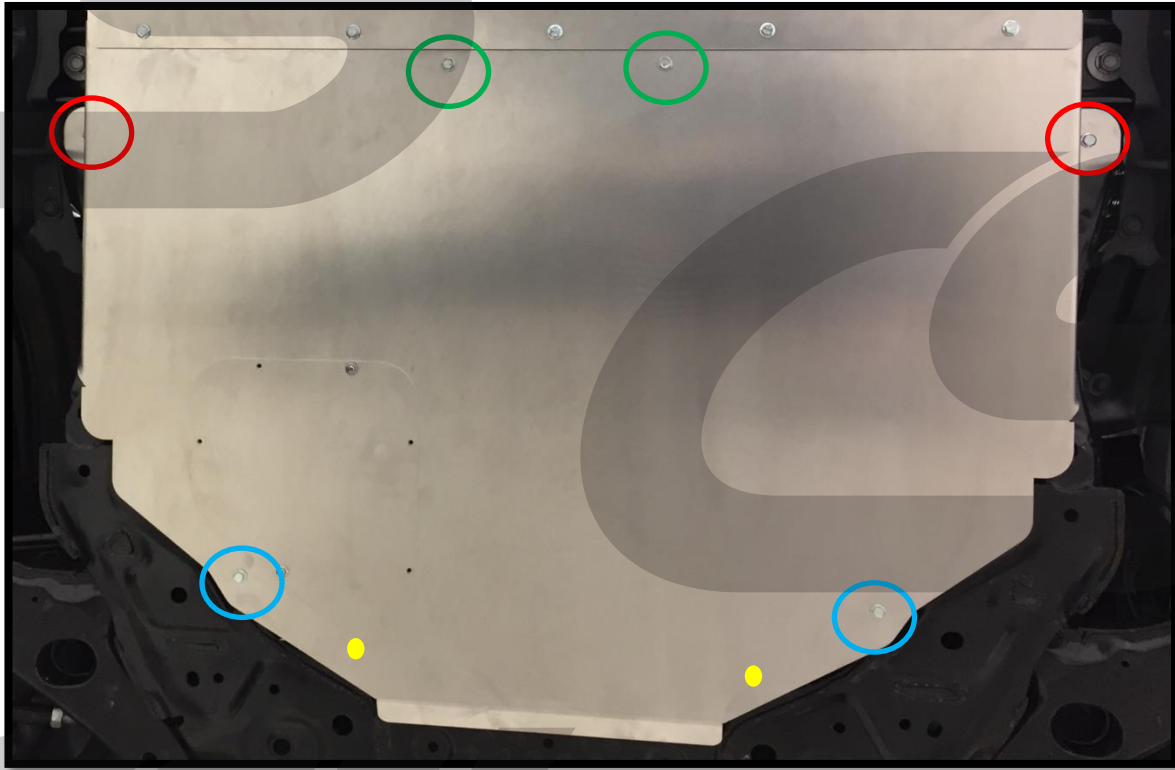
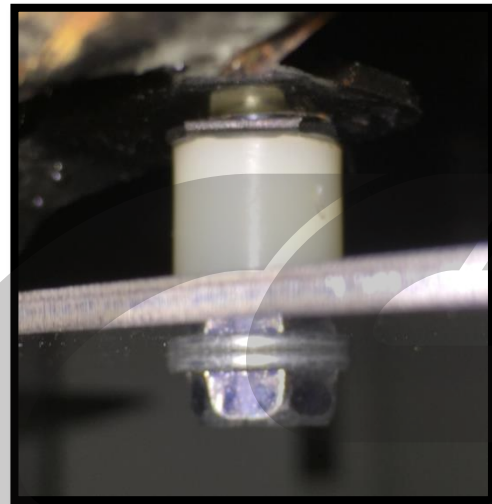

Figure 2c
Figure 2d
- c) Lift the Rear Section of the CorkSport Skid Plate into place and secure with two (2) OE 10mm bolts in the locations circled in red in Figure 2c.
- d) Place two (2) ½" nylon spacers above the holes in the skid tray circled in blue in Figure 2c. Figure 2d shows how the spacers should look when installed.
- e) Align the ½" nylon spacers with the previously installed U-nuts and two (2) supplied M6x30 button head screws as shown in Figure 2d torque to 10-14 ft-lbs.
- f) Place two (2) 1" nylon spacers above the middle holes in the skid tray. Circled in green in Figure 2c.
- g) Align the 1" nylon spacers with existing OE tapped holes and secure with two (2) supplied M6x40 button head screws torqued to 10-14 ft-lbs.
- h) Secure the oil access cover with the five (5) provided No8 Torx head screws. Tighten hand tight.